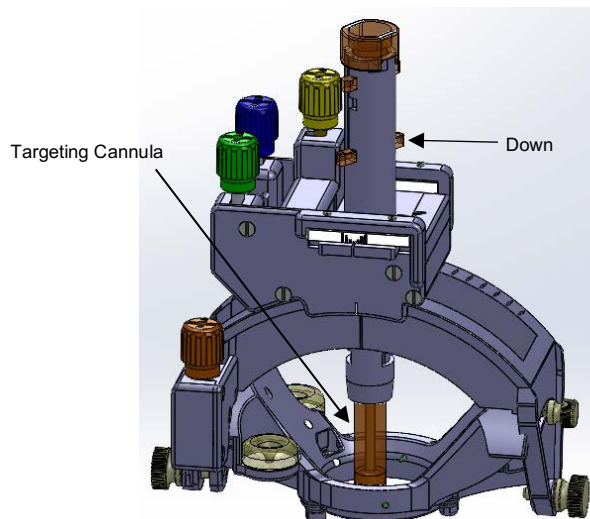

Figure 7: Targeting Cannula positioning and Tower/Base Orientation
15. Confirm that the Targeting Cannula is in the down position to begin the procedure. **See Figure 7.**